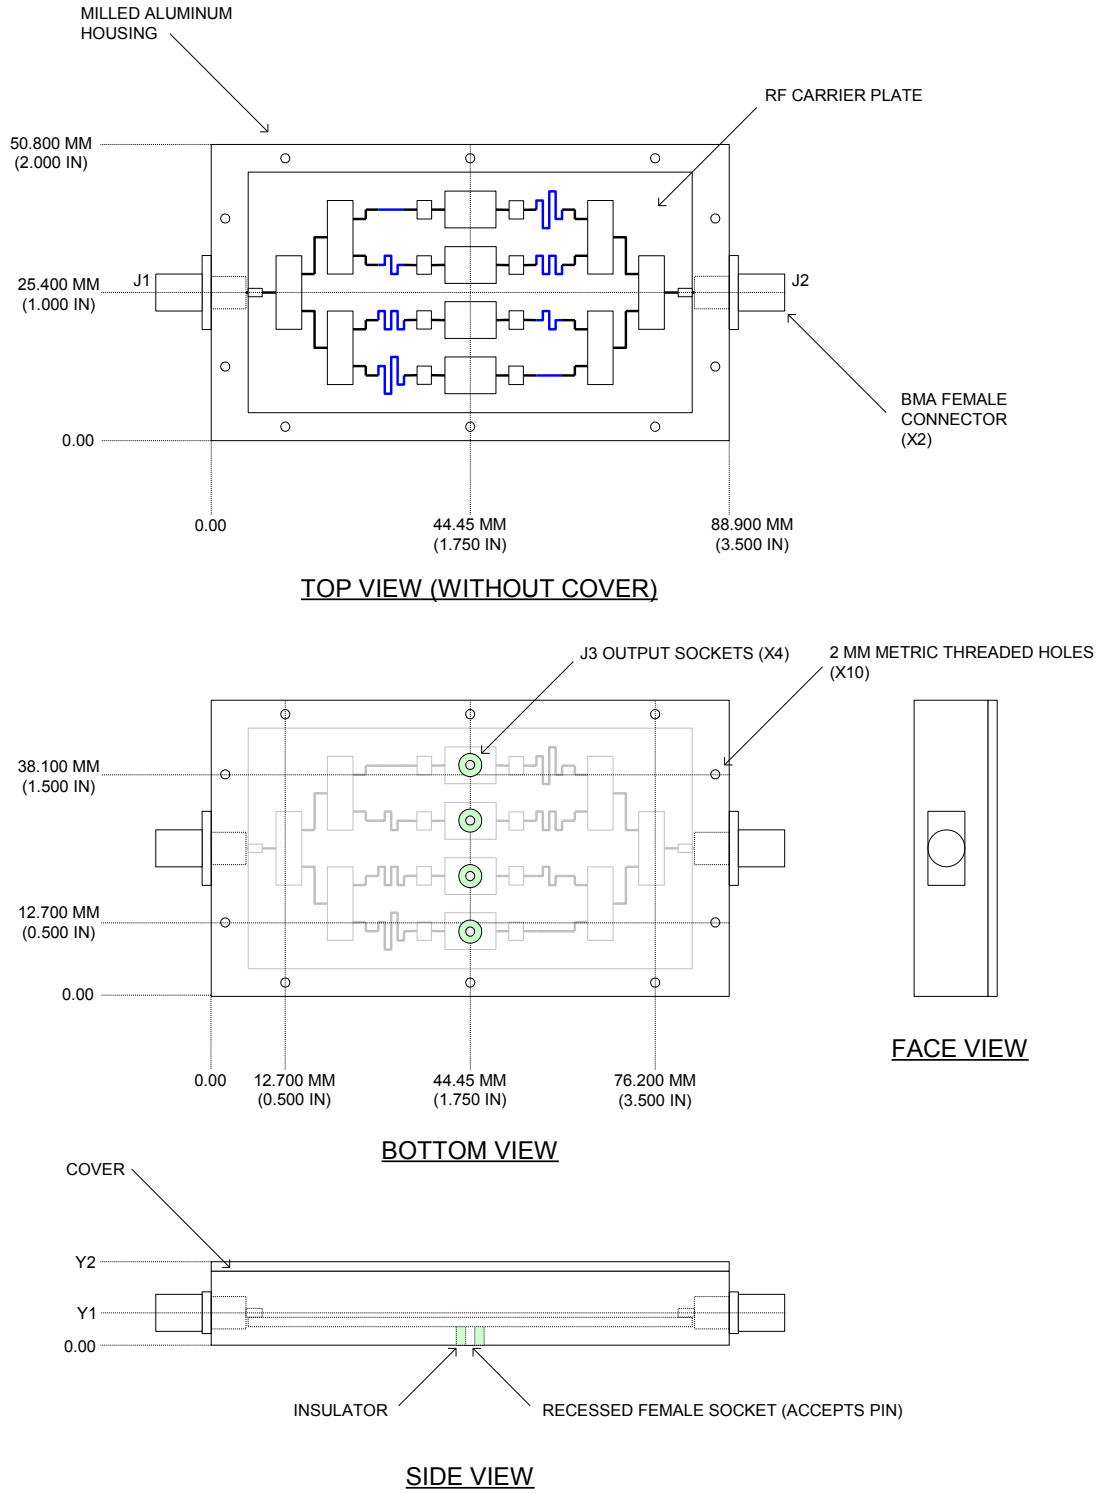

Figure 4 Mechanical Packaging Concept
- 1.5 Correlated Analog Output Connector: 4 individual socket contacts (1 contact per mixer). Sockets shall accept external mating pins. Ground contact shall be provided by the case. Supplier will provide exact interface dimensions. Refer to Figure 4, bottom view.
3.1 Module External Dimensions: Refer to Figure 4.
3.2 Bottom Mounting Hole Locations: Refer to Figure 4. 10 threaded mounting holes for the mating module shall be provided as described in the figure. Placement of the holes shall be within +/- 0.127 mm (+/- 0.005 inches) of the specified locations.
3.3 J1 and J2 Connector Locations: Refer to Figure 4. The J1 and J2 input connectors shall be located symmetrically on opposite faces of the module. The height (Y1 dimension on side view) dimension shall be specified on the suppliers outline drawing. Placement of the connectors shall be within +/- 0.127 mm (+/- 0.005 inches) of the specified locations.
3.4 J3 Connector Location: Refer to Figure 4. J3 will consist of 4 individual feed-through sockets. The exact locations and dimensions of these 4 sockets shall be specified relative to the datum on the suppliers outline drawing. Placement of the sockets shall be within +/- 0.127 mm (+/- 0.005 inches) of the suppliers specified locations.